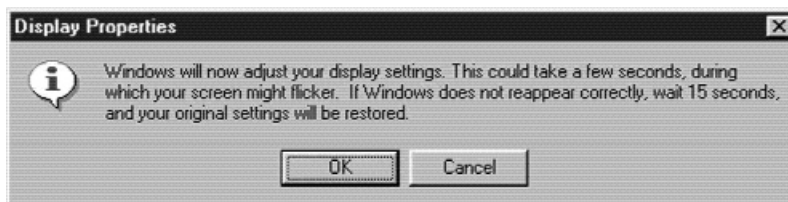

Fig. 75
① Slider
4. Click the **OK** button in the confirmation window to set the display area. To cancel, click the **Cancel** button (see Figs. 75~76).